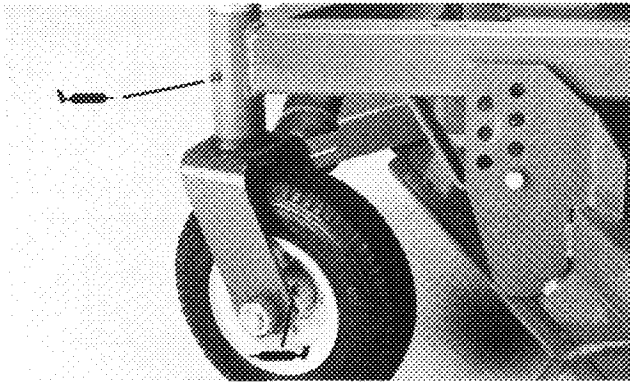

Figure 10
1. Grease: castor spindle bushings, castor wheel bearings (Fig. 10) and blade spindle bearings (Fig. 11).